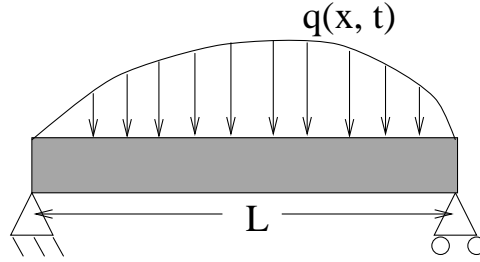

Figure 3:
4. A time varying distributed load $q(x, t)$ acts on a simply-supported beam as shown in Fig. 3. The governing equation for the transverse vibration of the beam is given by (50)